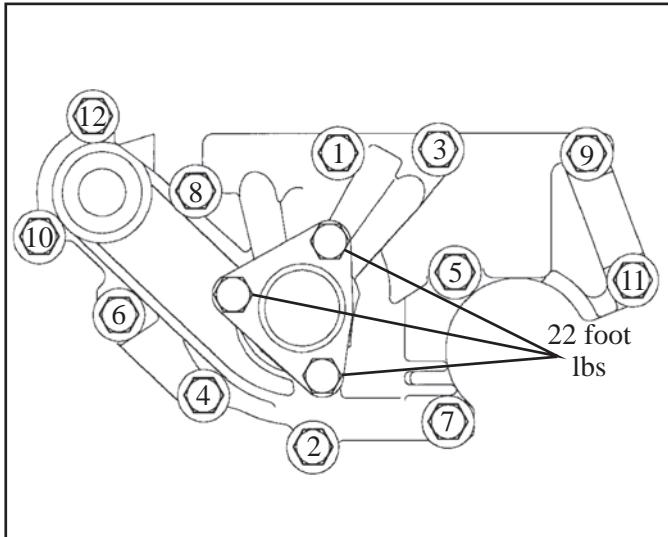

Figure 156
- Torque each of the pump housing to case bolts to 12 N·m (106 inch lbs) in the numerical sequence shown in Figure 156.
- If it was necessary to remove the three 13 mm stator support retaining bolts, torque them down to 30 N·m (22 foot lbs) (See Figure 156)